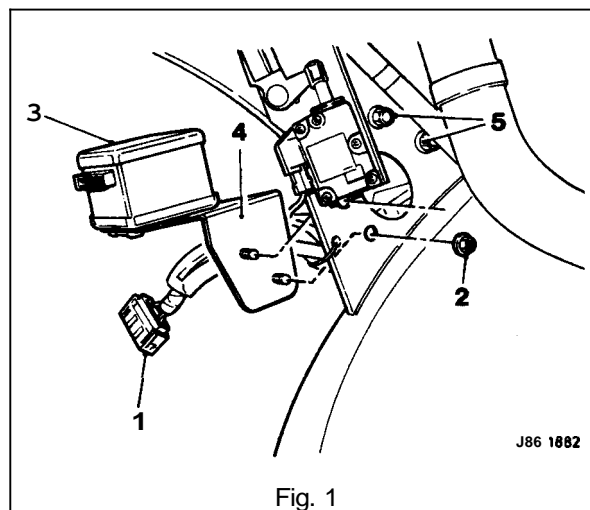

Fig. 1
- Undo and remove the sensor mounting bracket securing nuts (2 Fig. 1). Remove the sensor (3 Fig. 1) complete with mounting bracket (4 Fig. 1).